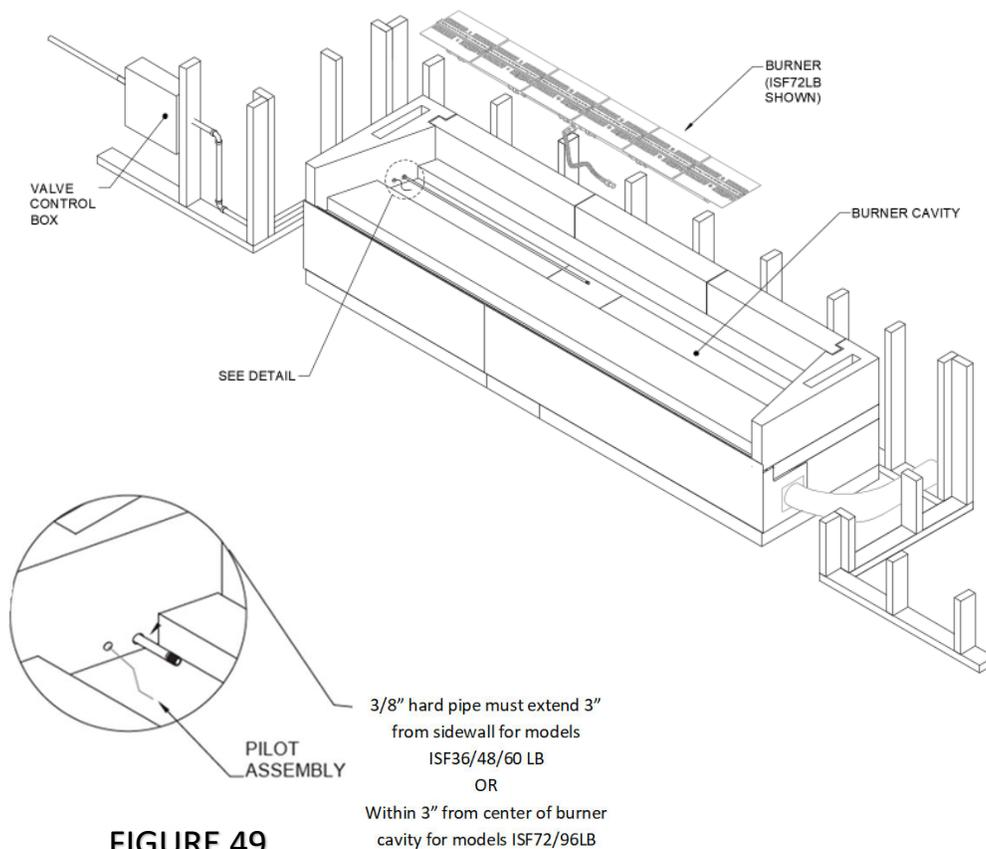

FIGURE 49
- 4) The 48”, 60”, and 72” Maximus Linear fireplaces (82L48, 82L60, & 82L72) will require the ISF36/48/60LB (N/P) (respectively): Gas supply piping for these models shall terminate not less than 3” from sidewall. (Figure 49)
- 5) The 96” and 120” Maximus Linear fireplaces (82L96 & 82L120) will require the ISF72/96LB (N/P) (respectively): Gas supply stub piping for these models shall terminate within 3” from center of the cavity. (Figure 49)